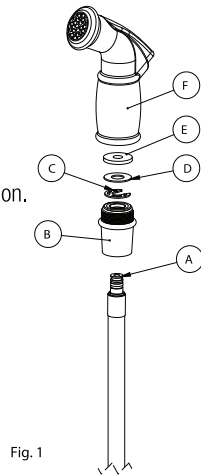

Fig. 1
4. Attach Existing Sprayer (F) to New Hose. Start with Hose End (A) [Fig. 1].
- a) Unscrew old hose from Existing Sprayer (F).
- b) Remove Clip (C) then, Ferrule Nut (B) from old Hose. There may be one or two Washers (Fig. 1 (D) & (E)) inside Sprayer. Save these for re-installation.
- c) Slide Ferrule Nut (B) over Hose End (A).
- d) Insert Clip (C) into Groove in Hose End (A) securing Ferrule Nut (B) to hose end.
- f) Screw Ferrule Nut (B) onto Sprayer (F). Hand Tighten Only. **Over Tightening May Cause Damage.**
5. Slide free end of Hose (A) downward through Faucet until Sprayer is fully seated in Guide.